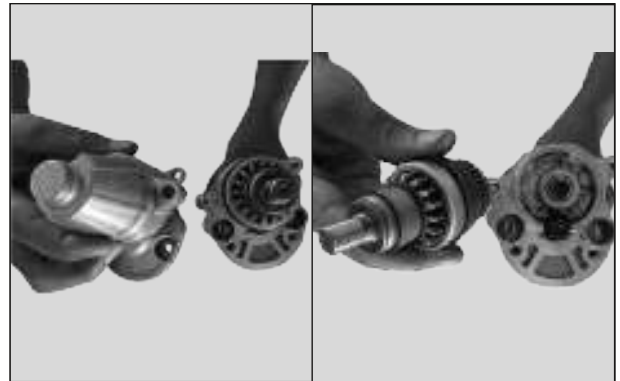

Fig. 6.39
- Separate the fixing bracket assembly from inter bracket. (Fig. 6.39)
- Remove the bendix drive assembly from the Inter Bracket assembly. (Fig. 6.39)